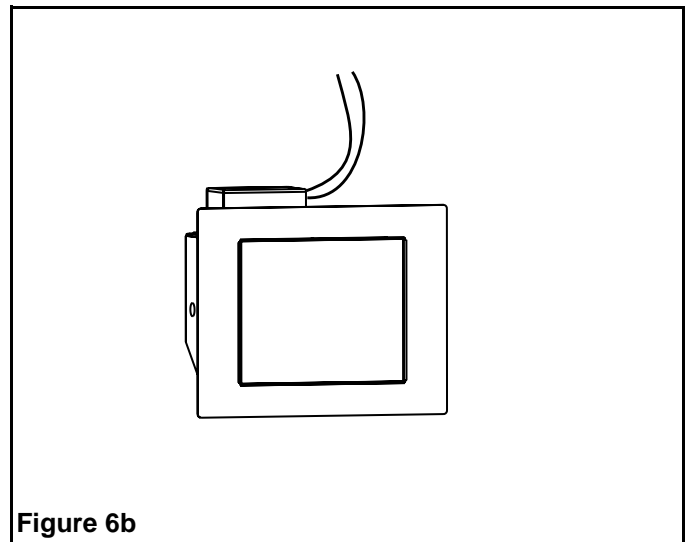

Figure 6b
5. Install the junction box on the lamp module with the two screws provided (see Figure 6b). Make sure the whole junction box installation follows the code.